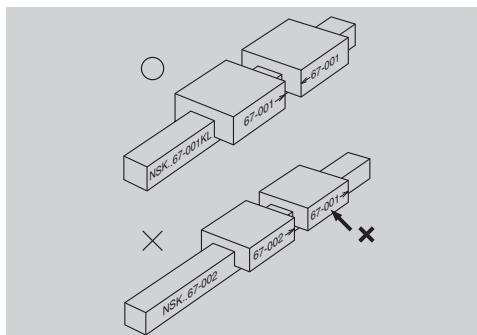

Fig. 9.28
- In case that the slides had to be removed from the rail, confirm their serial numbers and the directions of arrows for re-assembly (Fig. 9.28).